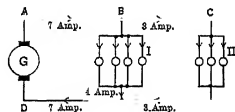
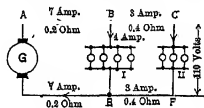

FIG. 65. Two groups of lamps at different distances from generator.
Fig. 71: Voltage at Group II must be 110 volts.
In Fig. 65, the sections *AB* and *DE* of the line are nearest the generator and thus have to carry enough current to supply both groups of lamps. Since Group I takes 4 amperes and Group II takes 3 amperes the generator must supply 7 amperes, and sections *AB* and *DE* of the line must carry 7 amperes.
Figs. 65 and 71 are identical except that in Fig. 71 the resistance of the line wire is known and the voltage across Group II is given as 110 volts. It is required to find the voltage across the generator and Group I.
**First Step. Current Distribution.** Note that as each lamp takes 1 ampere, the current distribution in Fig. 71 is the same as in Fig. 65. That is, between Groups I and II, the line carries 3 amperes. Between the generator and Group I, the line carries 7 amperes. It is also essential to note that in all problems of this type we have started by finding the current distribution.